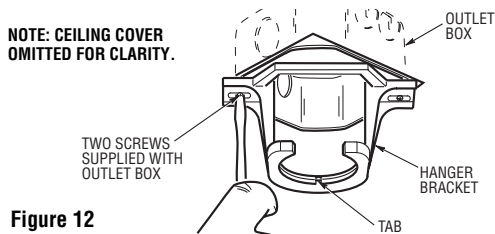
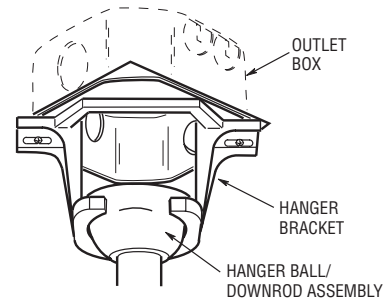

Figure 12
Figure 13
1. Securely attach the hanger bracket to the outlet box using the two screws supplied with the outlet box. (Figure 12.)
2. Carefully lift the fan and seat the hanger ball/downrod assembly on the hanger bracket that was just attached to the outlet box (Figure 13). Be sure the groove in the ball is lined up with tab on the hanger bracket (Figure 12).